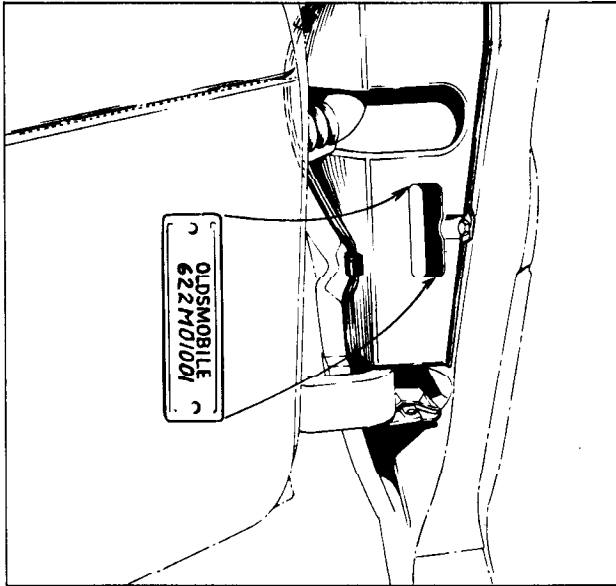

Fig. 1-2 Vehicle Identification Number Plate
as illustrated in Fig. 1-2. Each identification number is prefixed by three numbers and a letter. The first two numbers (62) indicate the year 1962. The third number designates the series.